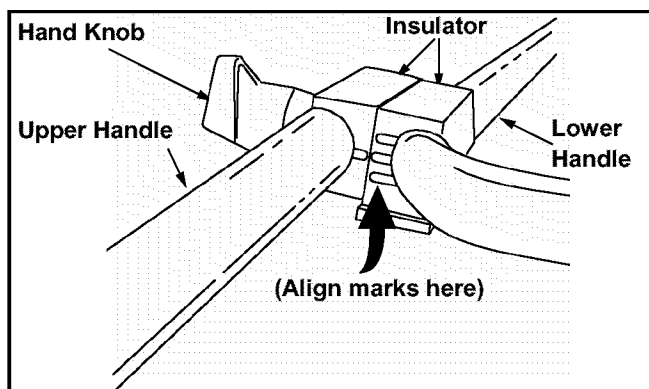

Figure 4
- The upper handle may be adjusted to three different height positions. To adjust the handle at the desired position, align one of the three marks on the top of the lower handle insulators with the mark on the upper handle insulators. See Figure 4.
- The upper handle may be adjusted to three different height positions. To adjust the handle at the desired position, align one of the three marks on the top of the lower handle insulators with the mark on the upper handle insulators. Refer to Figure 4.